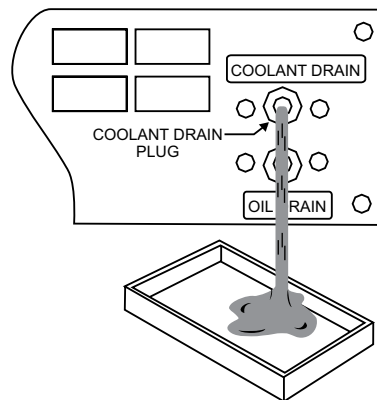

Figure 39. Coolant Drain Plug
1. Remove radiator coolant plug (Figure 39) located at the bottom of the generator enclosure and drain radiator coolant. Open the radiator cap while draining. Remove the overflow tank and drain.